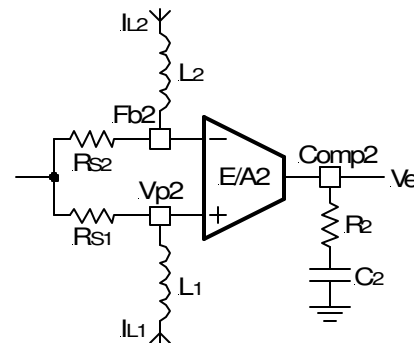

Figure 8 - The PI compensation network for slave channel.
The transfer function for the compensation network is given by equation (18), when using a series RC circuit as shown in Figure 8.